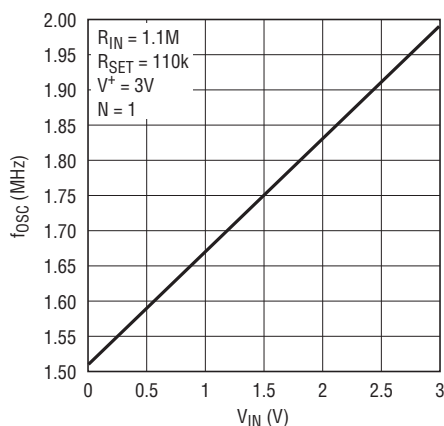

Figure 10. Output Frequency vs Input Voltage
Let  $V^+ = 3V$ ,  $f_{OSC(MAX)} = 2\text{MHz}$  for  $V_{IN(MAX)} = 3V$  and  $f_{OSC(MIN)} = 1.5\text{MHz}$  for  $V_{IN} = 0V$ . Solve for  $R_{IN}/R_{SET}$  by Equation (2), yielding  $R_{IN}/R_{SET} = 9.9/1$ .  $R_{SET} = 110.1k$  by Equation (4).  $R_{IN} = 9.9R_{SET} = 1.089M$ . For standard resistor values, use  $R_{SET} = 110k$  (1%) and  $R_{IN} = 1.1M$  (1%). Figure 10 shows the measured  $f_{OSC}$  vs  $V_{IN}$ . The 1.5MHz to 2MHz frequency excursion is quite limited, so the curve of  $f_{OSC}$  vs  $V_{IN}$  is linear.